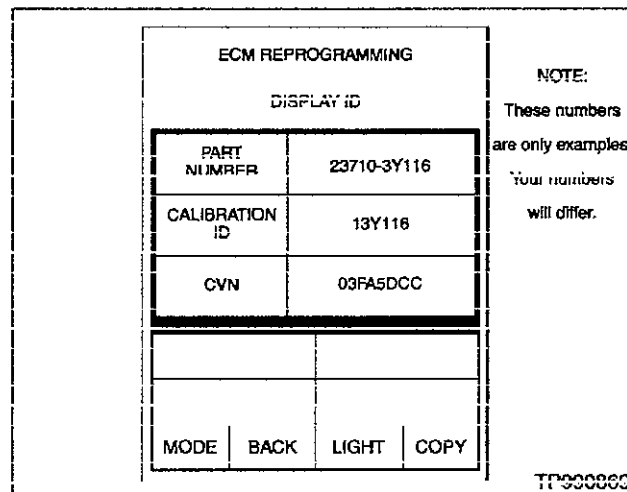

Figure C8
13. Press "CHECK ECM P/N" to "confirm" (take note of) the ECM part number on the vehicle to be reprogrammed (see Figure C8).